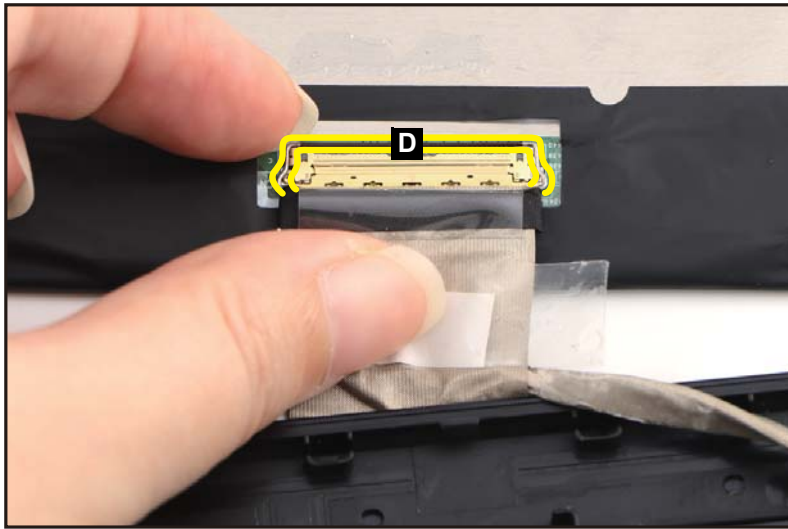

Figure 1-47. LCD Panel Removal
4. Lift the latch (D) securing the eDP cable (Figure 1-47).